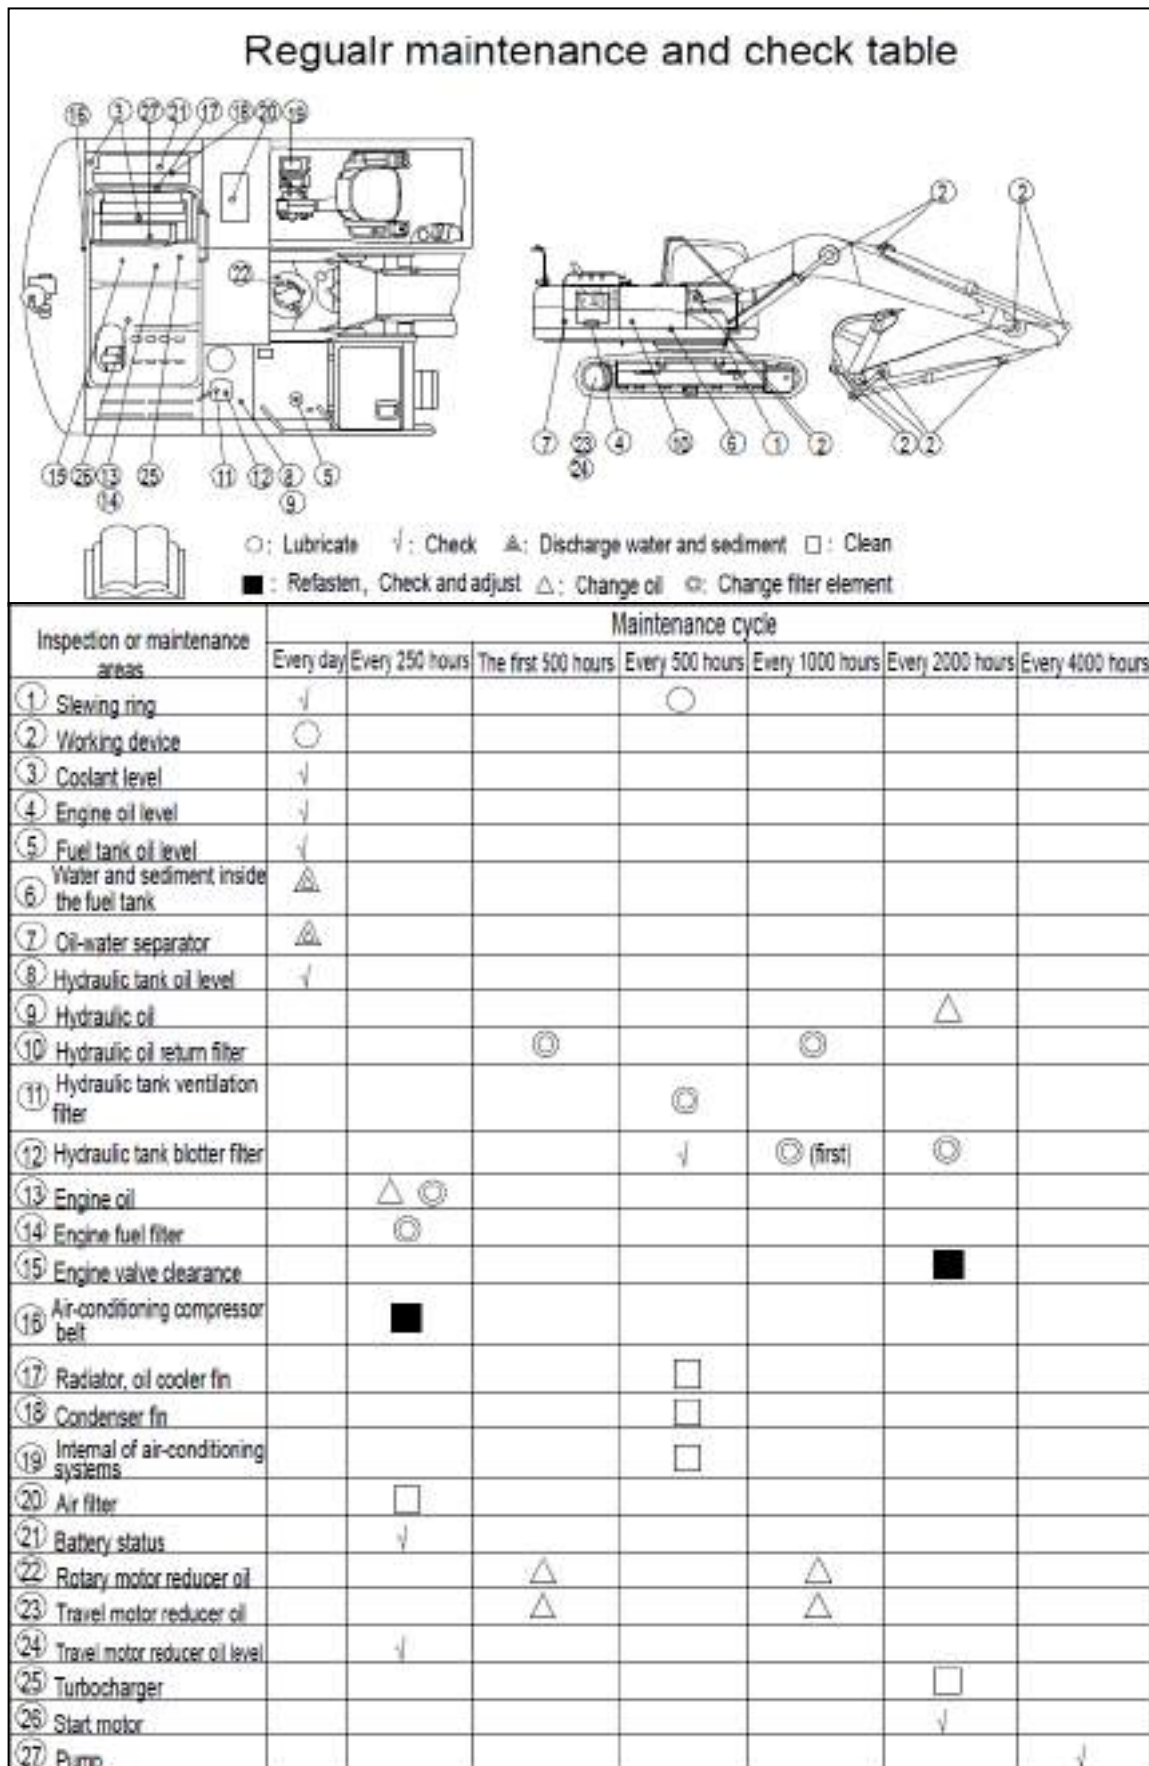

Figure 1-7 Regular maintenance and check table
(6) Regular maintenance and check table, as shown in Figure 1-7.